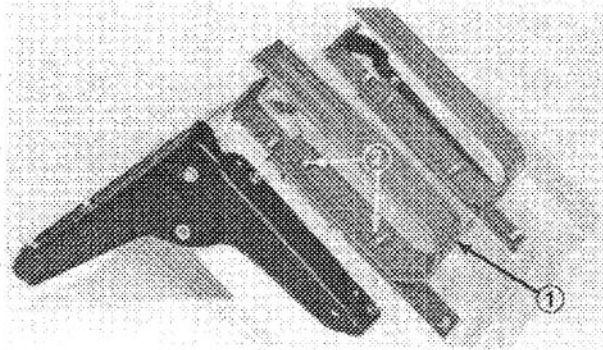

Figure 3
- Loosely secure seat springs to seat mounts with four (4) hex nuts as shown in Fig. 3.